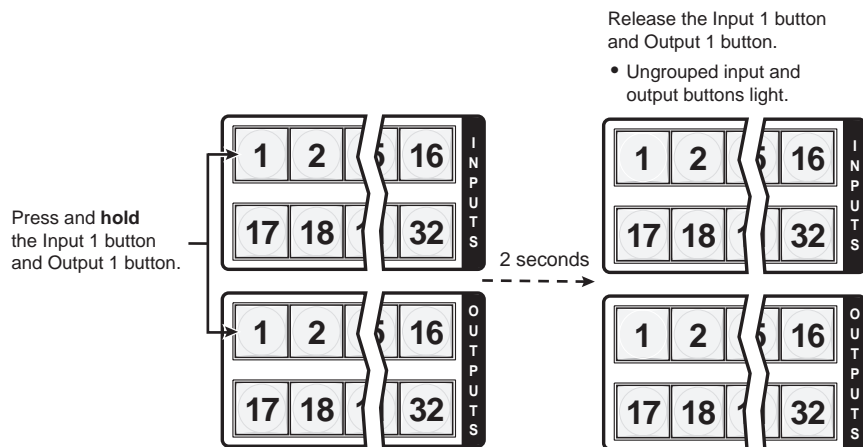

Figure 3-31 — Select I/O Group mode
2. To enter I/O Group mode, press and **hold** the Input 1 and Output 1 buttons (figure 3-31).